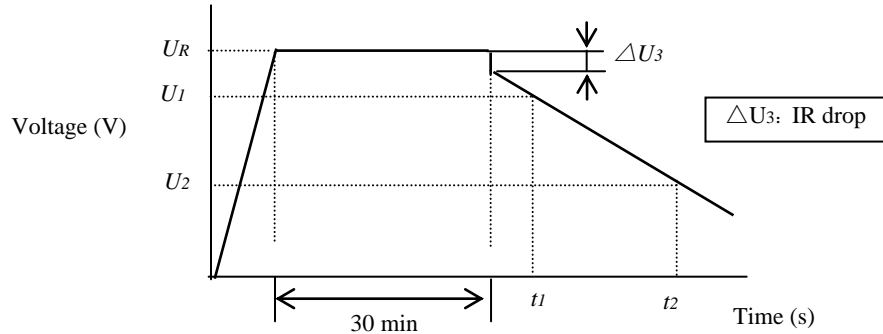

Figure 2- Voltage characteristic between capacitor terminals
3.2	<p><Condition> Constant current discharge method: Measuring circuit:</p>  <p style="margin-left: 20px;">Constant current / constant voltage power supply</p> <p style="margin-left: 20px;">Constant Current Discharger</p> <p>Key</p> <ul style="list-style-type: none"> d.c. ammeter d.c. voltmeter S changeover switch Cx capacitor under test <p style="text-align: center;">Figure 1- Circuit for constant current discharge method</p> <p>Measuring method</p> <ol style="list-style-type: none"> a) Set the d.c. voltage at the rated voltage (U_R) b) Set the constant current value of the constant current discharger to the discharge current specified in Table 1. c) Turn the switch S to the d.c. power supply, apply voltage and charge for 30 min after the constant current / constant voltage power supply has achieved the rated voltage. d) After a charge for 30 min has finished, change over the switch S to the constant current discharger, and discharge with a constant current. e) Measure the time t_1 and t_2 where the voltage between capacitor terminals at the time of discharge reduces from U_1 to U_2 as shown in Figure 2, and calculate the capacitance value by the following formula: